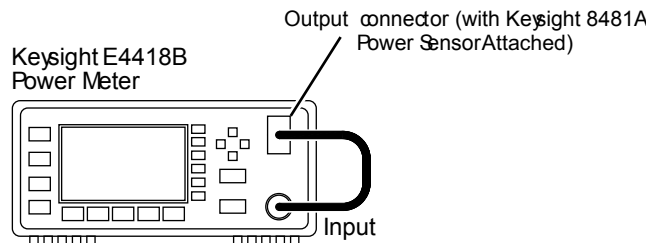

Figure 2-4 E4418B Power Meter Zeroing and Calibration Test Setup
- 1 Connect the Keysight 11730A Power Sensor Cable to the Keysight 8481A Power Sensor (see Figure 2-4).